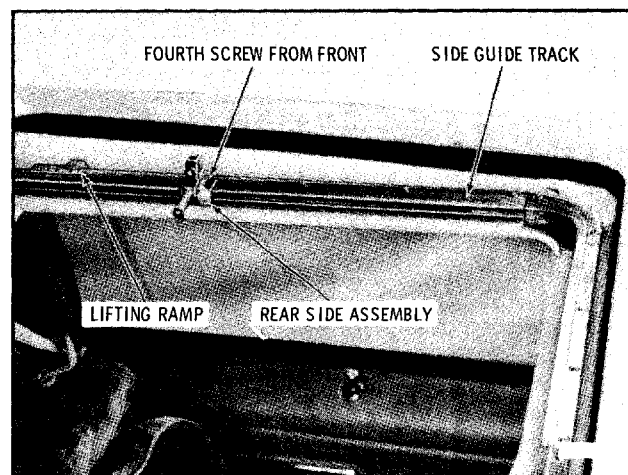

Fig. 8-120-Rear Slide in Centered Position - E and K Styles
3. Position left rear slide and cable assembly into side guide track. Move rearward until slide is centered with the fourth side guide rail screw (from the front) (Fig. 8-120).
7. Recheck rear slides for alignment with fourth screw from front on side guide rails (Fig. 8-120).